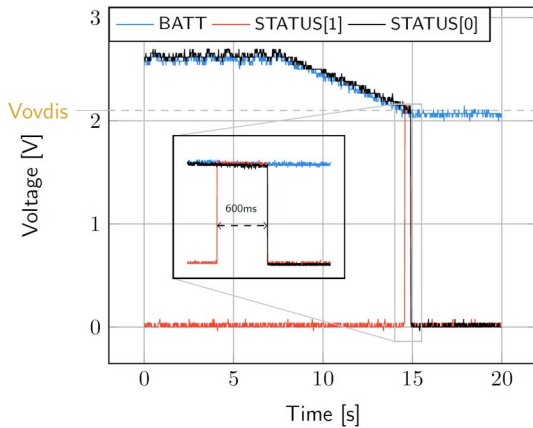

Figure 5: LDOs disabled around 600 ms after **BATT** reaches V_{OVDIS}
- **BATT**: Voltage decreases as the system consumes the power accumulated in the storage element. The voltage remains stable after crossing V_{OVDIS} (see Figure 5).
- **STATUS[0]**: De-asserted when the LDOs are no longer available as the storage element is running out of energy. This happens 600 ms after **STATUS[1]** assertion (see Figure 5).
- **STATUS[1]**: Asserted for 600ms when the storage element voltage (**BATT**) falls below V_{OVDIS} (see Figure 5).